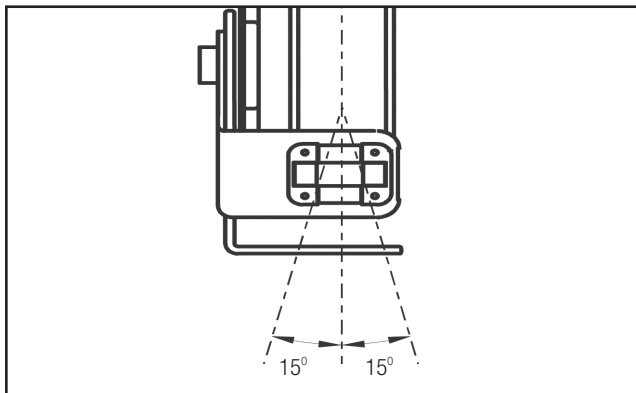

Figure 8-5 Cable Deflection with Roller Guide
- The reel should be oriented so that the cable extends perpendicular to the rotation of the spool. The cable deflection should not exceed  $15^\circ$  to either side of the center line. See Figure 8-5.